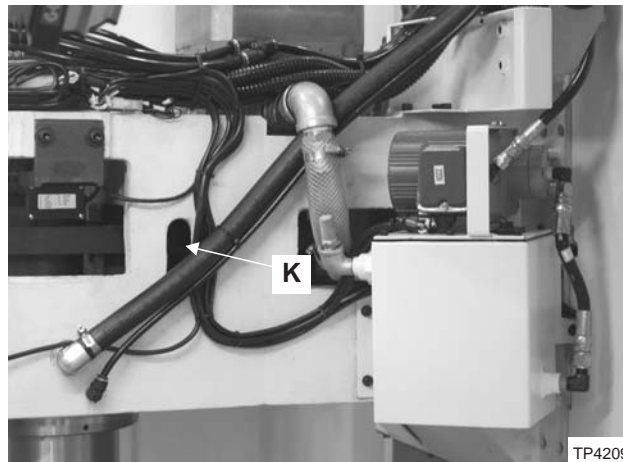

Figure 5.9 - High-Torque Belt Access
4. Open the right side door and locate the spindle belt through access opening “K”, Figure 5.9. Apply the force and check the belt deflection here.